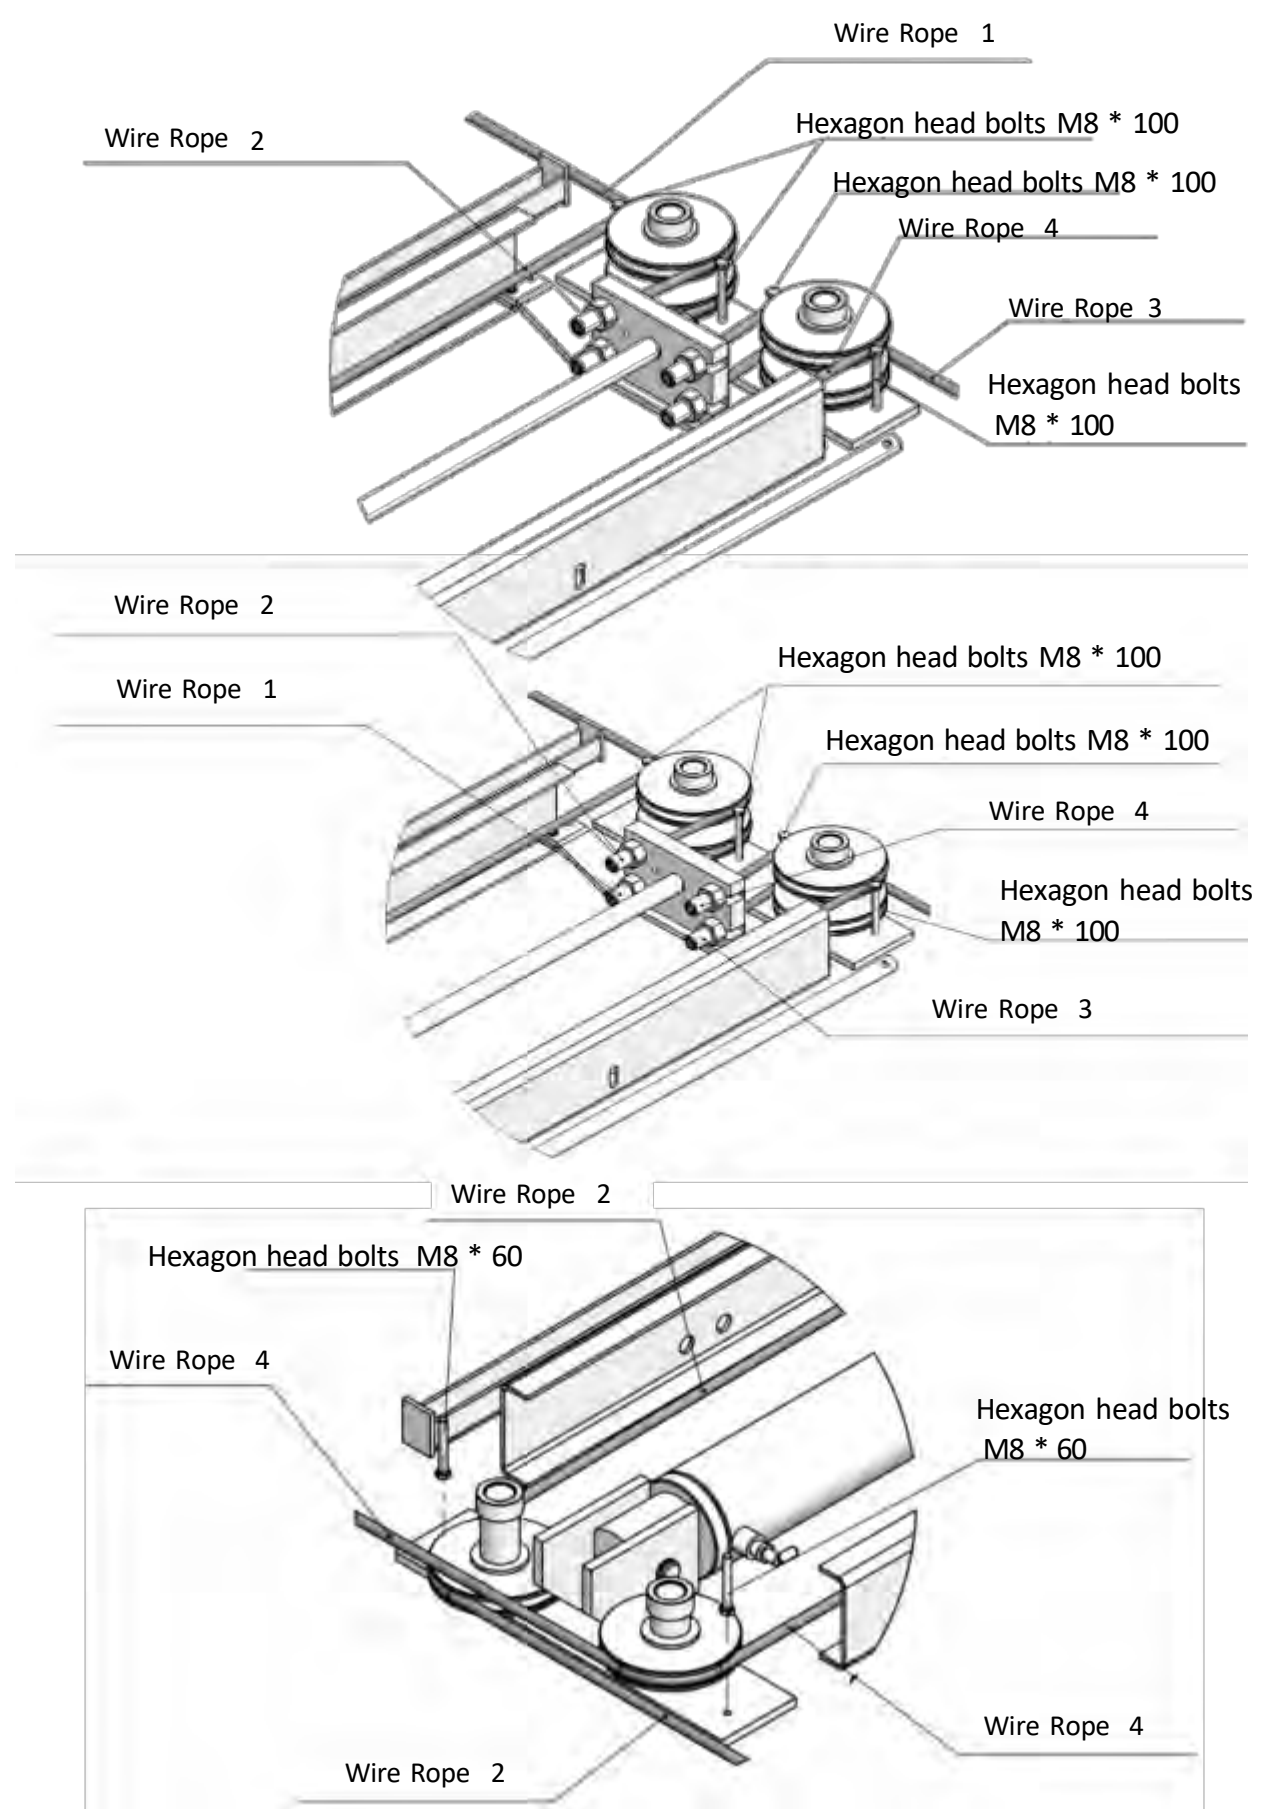

Fig.21
3. Illustration for cables under platform . (See Fig. 21)